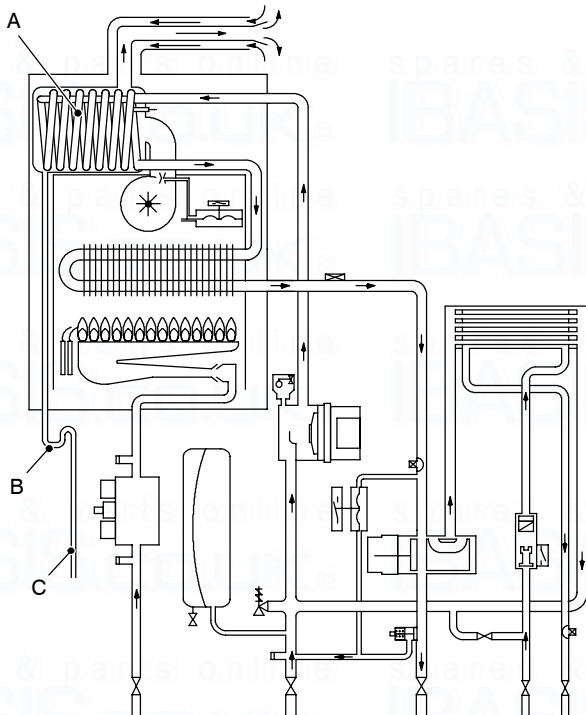
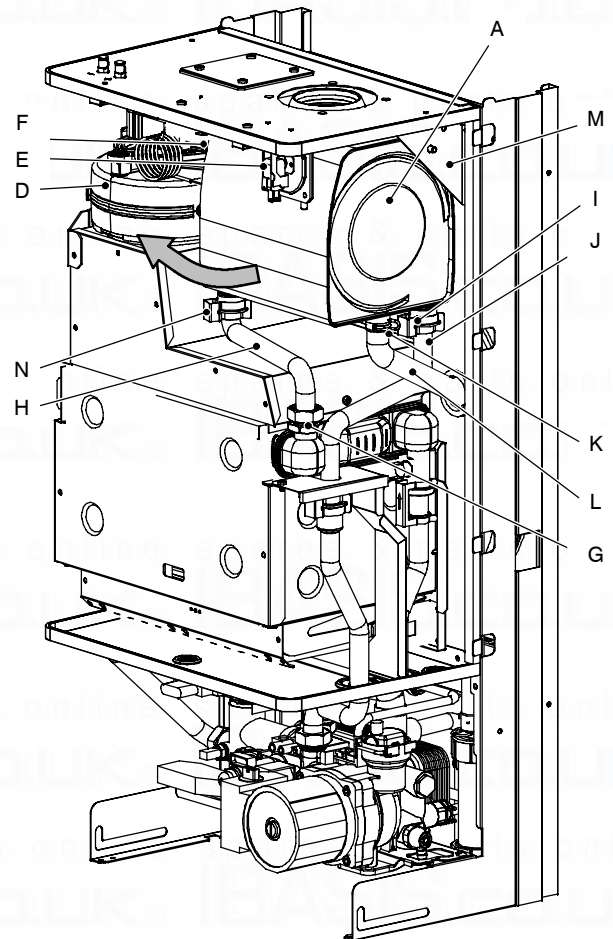

Fig. 12
Fig. 13
The return water flows through the condensing heat exchanger A in Fig. 12 and Fig. 13.
- 3 Remove the fan D in Fig. 13 (see section 17.3) and the air pressure switch E (see section 17.5).